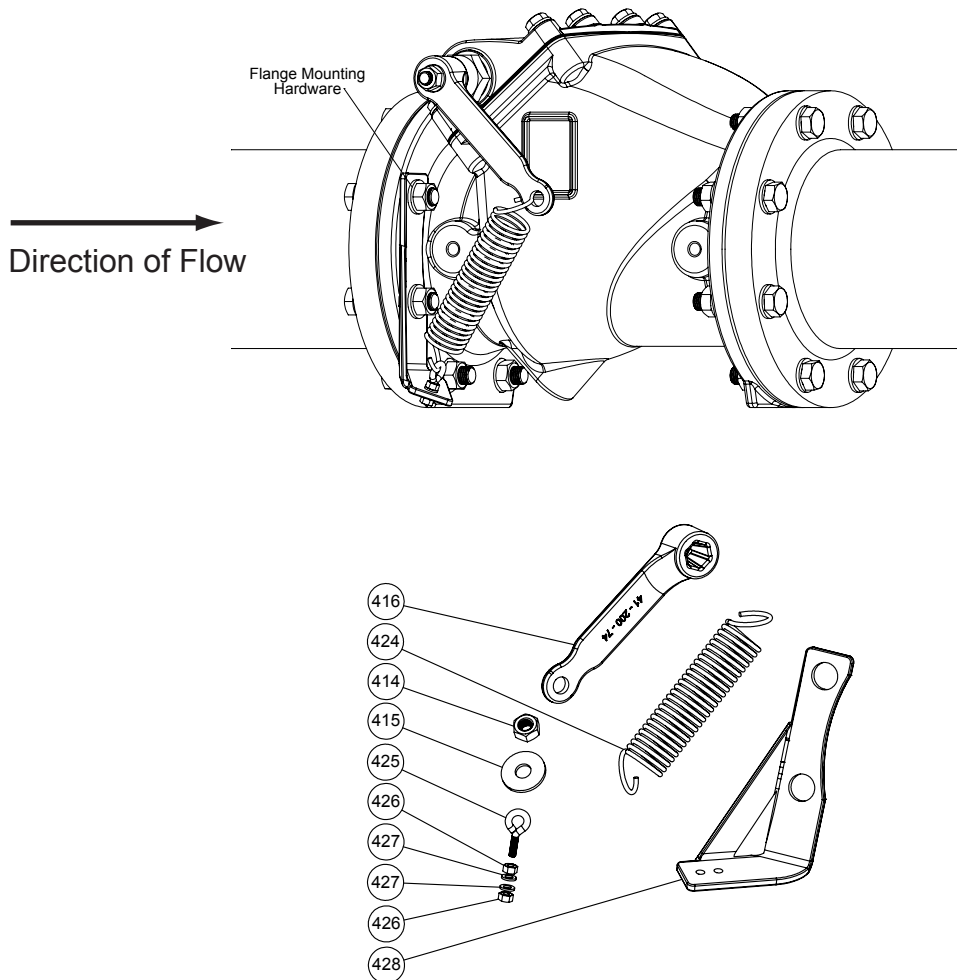

Fig. 6
For sizes 3-inch through 8-inch, the Spring Bracket (428) must be installed using the flange mounting hardware (figure 6). Install the Spring Eyebolt (425) on the Spring Bracket, securing it with the Spring Eyebolt Nuts (426), and Spring Eyebolt Washers (427), one washer and nut on each side of the Spring Bracket (428). Slide the Lever (416) onto the Shaft (408) and position as shown in figure 4. Secure the Lever with the Shaft Washer (415) and Shaft Nut (414) and tighten to 30 ft-lbs. Attach Spring (424) in it's relaxed position as shown in figure (6). A medium strength thread locking compound such as Locktite 242 should be used to attach the Lever.